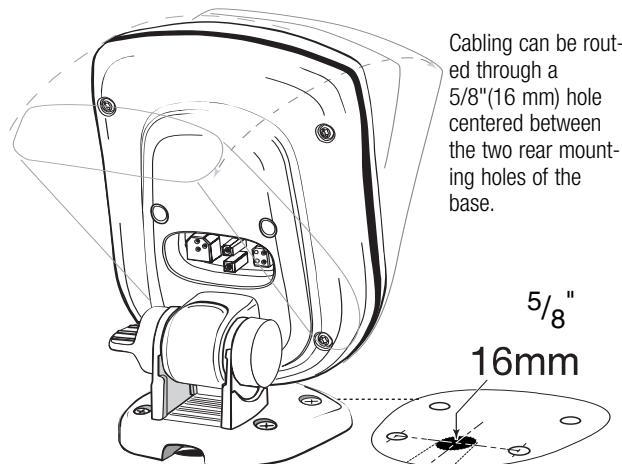

Figure 9
4. Drill a 16mm (5/8") hole at the location where the cables pass through the mounting surface. If access is possible underneath mounting surface, drill the hole so the mount base forms a hole cover. See Figure 9 for location of cable hole under the mount.